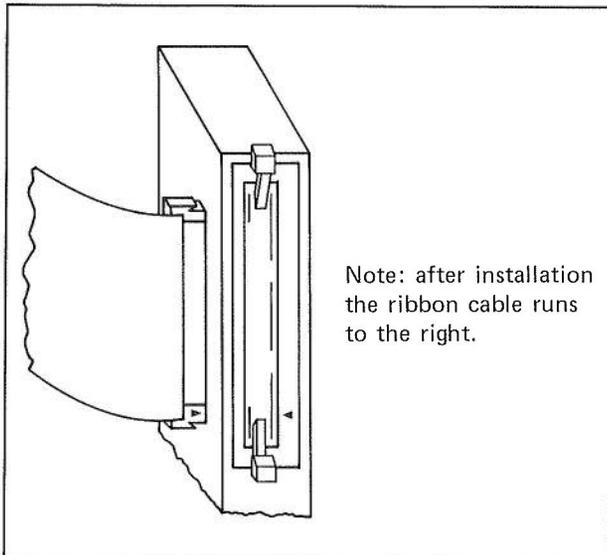

Figure 8 – Proper Connector Orientation
Step 14 – Connect the Distribution Panel Cable with the 50-pin male connector on the Module. Orientation is important! Be sure the molded plastic triangles on the connector and on the Module's Lens line up. (See Figure 8.)